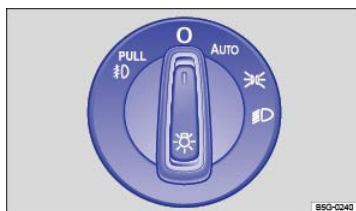

Fig. 93 Headlight switch next to the steering wheel (with fog lights and automatic headlights, if equipped).
- **Switching on fog lights** : Pull the light switch  $\Rightarrow$ Fig. 93 out to the detent. The indicator lamp  in the light switch lights up green.